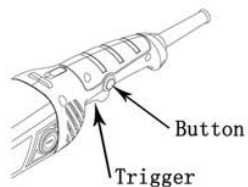

**Figure 6**
- 2) Start the tool by pressing the button of on/off switch, then pressing the trigger of on/off switch down slightly. (See figure 6)